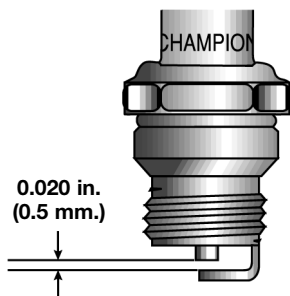

Fig. 27
3. Replace cracked, fouled or dirty spark plug. Set the air gap at **0.020 in. (0.5 mm.)** using a feeler gauge (Fig. 27).